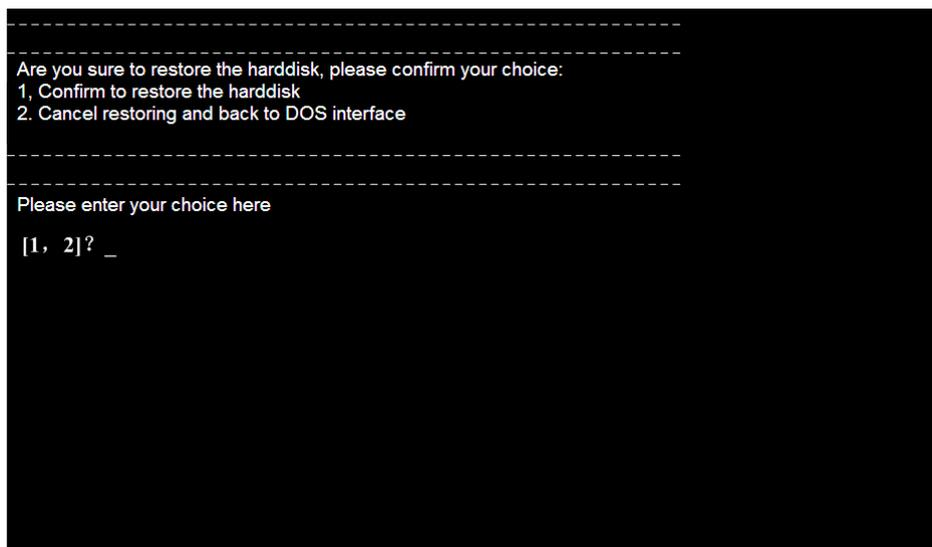

Fig. 5-3 DOS Confirmation Interface
- Enter “1”, and an interface shown as Fig. 5-3 DOS Confirmation Interface will appear.